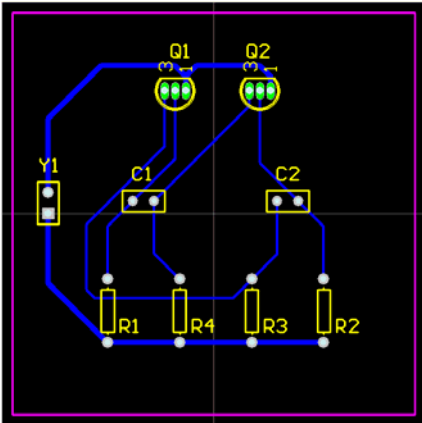

Figure 7. Manually routed board, with tracks placed on the bottom layer.
12. You can now route the rest of the board in a similar manner to that described in the previous steps. Figure 7 shows the manually routed board.